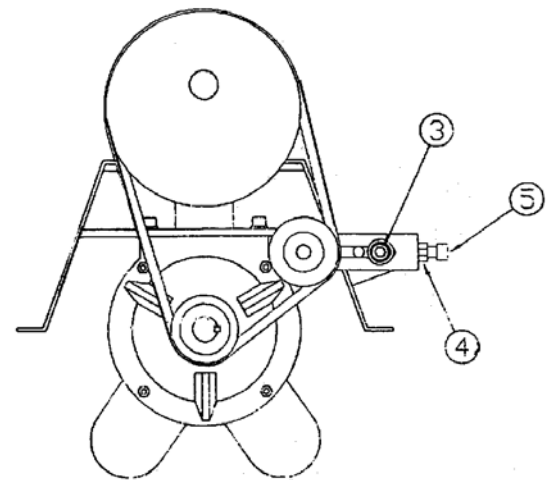

Figure 5.8 -Crank shaft assembly
5. Using a 5/16" hexagonal bar wrench, loosen the two (2) 5/16" hexagonal cap screws (items #3 and #5 on drawing shown Fig 5.8.)